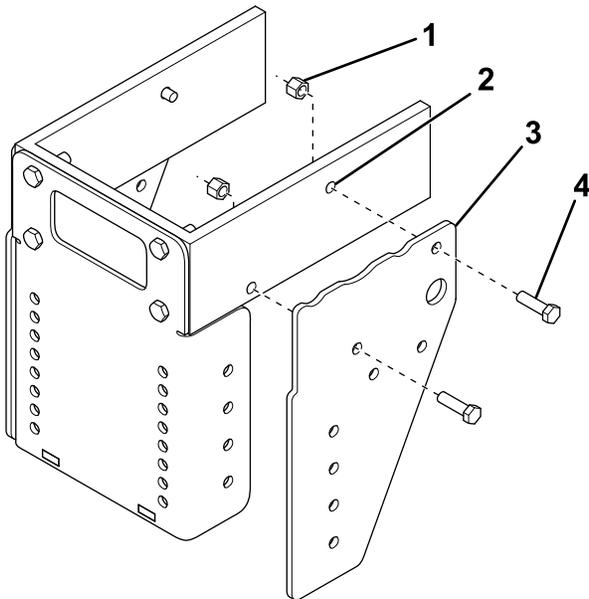

**Figure 2**
3. On the right side of the frame, remove the existing bolt in the hole indicated in Figure 2.
- Secure the rear of the right sideplate using a bolt (M12) and lockwasher (Figure 2).
- Secure the front of the right sideplate using a bolt (1/2 x 1-3/4 inches) and nut (Figure 2).